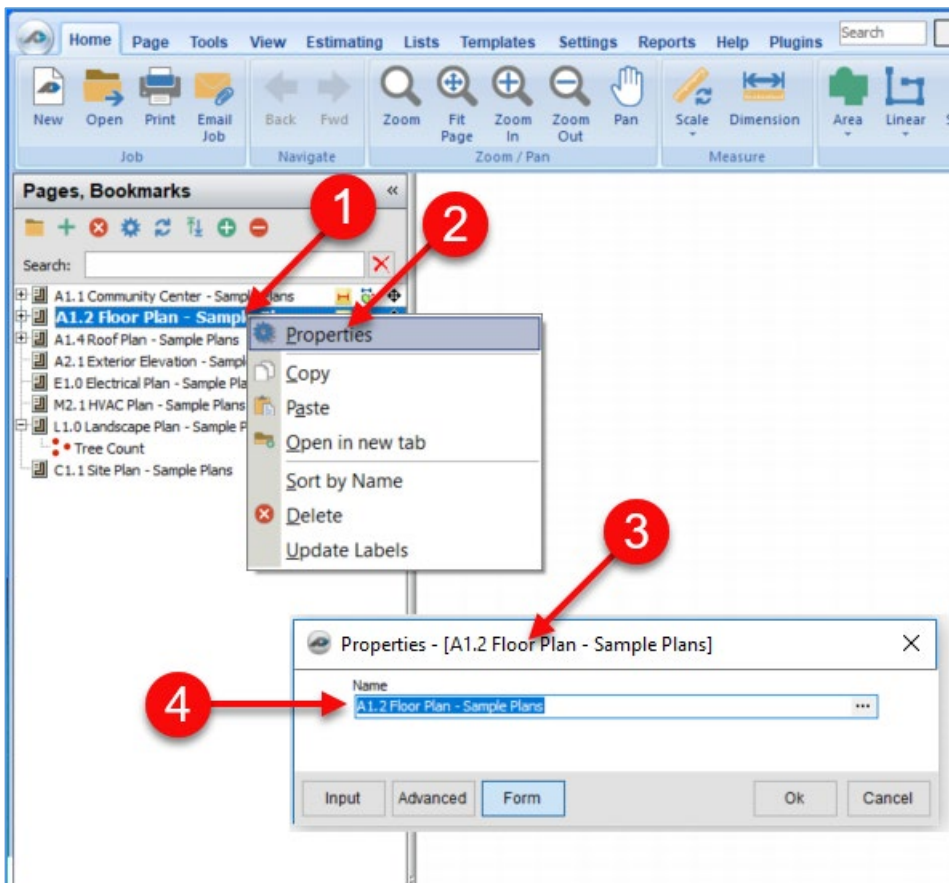

Figure 4-A
1. In the **Pages, Bookmarks** window, right-click the page to be renamed (Fig. 4-A).